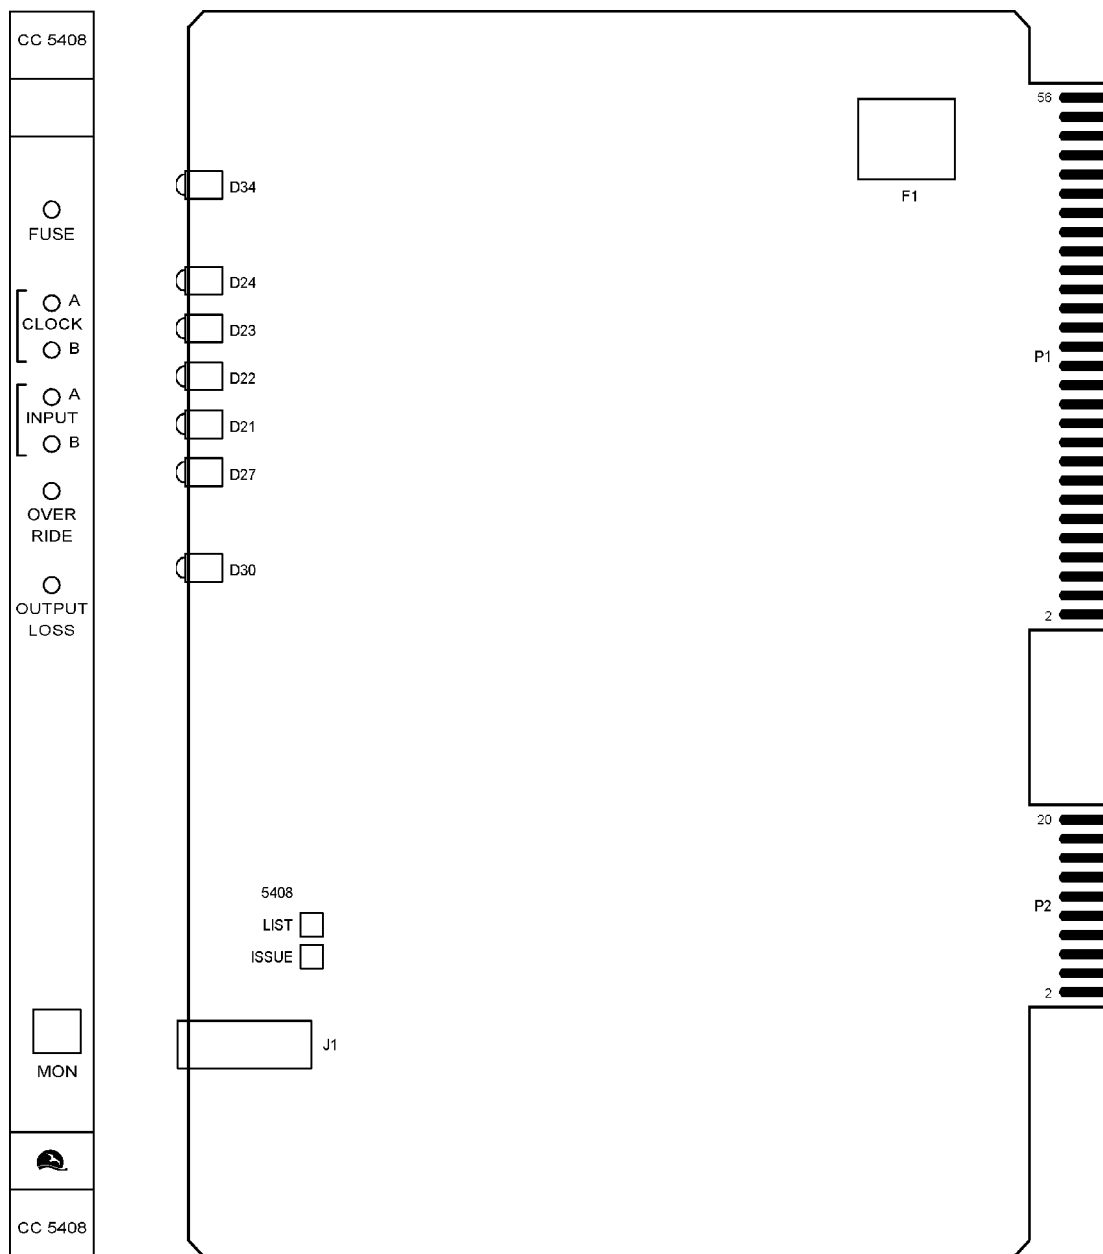

Figure 3-9. Model 5408 Composite Clock Output Driver Card with Front Panel
3.381 For card layout and front panel of the Model 5408, refer to Figure 3-9.